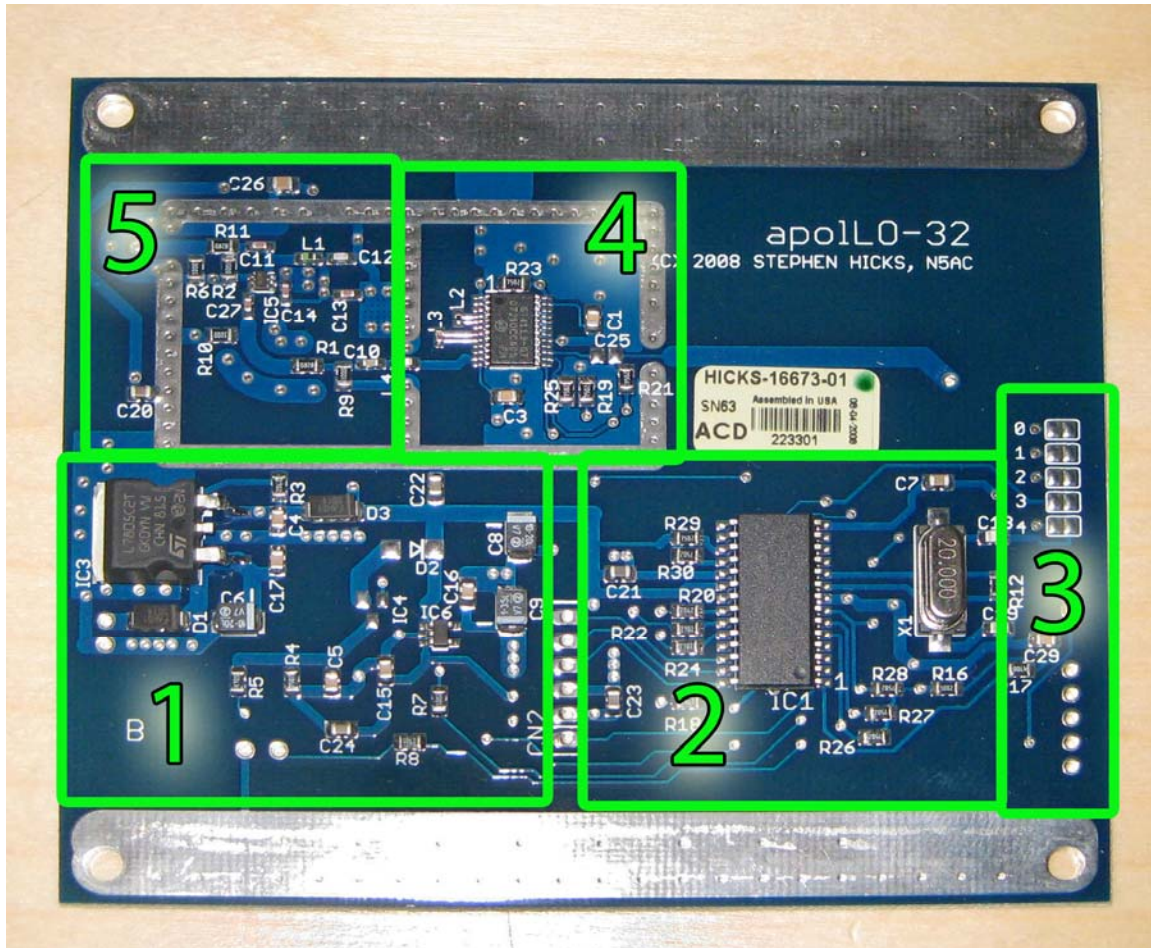

Figure 1, PCB Sections
ApoLO is a frequency synthesizer designed to operate in the 1.0—1.2GHz range for use as a local oscillator (LO). Whereas the apoLO I's frequency is programmable via PC software and a USB port, apoLO-32 is programmed via a set of solder jumpers or switches. The PCB consists of four main sections. The power supply (section #1 in Figure 1) produces supply voltages required by the board.
The second major section of the board is the microprocessor (μP) (section #2 in Figure 1). The microprocessor's main purpose is to read jumpers and switches to determine which frequency the LO should use and to program the synthesizer with this information.
On power-up, the microprocessor reads the jumper and switch settings (see section #3 in **Figure 1**) and uses the index (one of 32) to look up the operating parameters from the on-board EEPROM and writes this to the synthesizer. The synthesizer has no non-volatile memory for configurations itself.
The synthesizer (section #4 in *Figure 1*) uses two external inductances to set the operating range of the two internal RF synthesizers. For this design, the objective was to fashion a PCB that would cover 902.1 – 1296.1MHz. This range encompasses the required starting LO frequencies for each of the DEMI transverter designs as can be seen in the table below as well as a number of weak signal frequencies and frequencies required for other transverters:
Finally, the RF output of the Si41xx synthesizer can vary from -8dBm to +1dBm. Since most LO chains or mixers require a higher output level, an integrated RF amplifier is included on the board (section #5 in *Figure 1*). The ABA-54563 is a 20dB gain block with a P1dB of 16dBm. Sufficient padding is provided to isolate the synthesizer from the PA and the PA from the outside world (transverter). The output of the board has been pre-adjusted to +5dBm \pm 2dB.
The apollo-32 can be “programmed” using either solder jumpers, switches or both. In general, solder jumpers on the board shown as section #3 in *Figure 1* are used to program the frequency as shown in JUMPER SETTINGS. Once the jumper is soldered, the LO will always start on the programmed frequency.